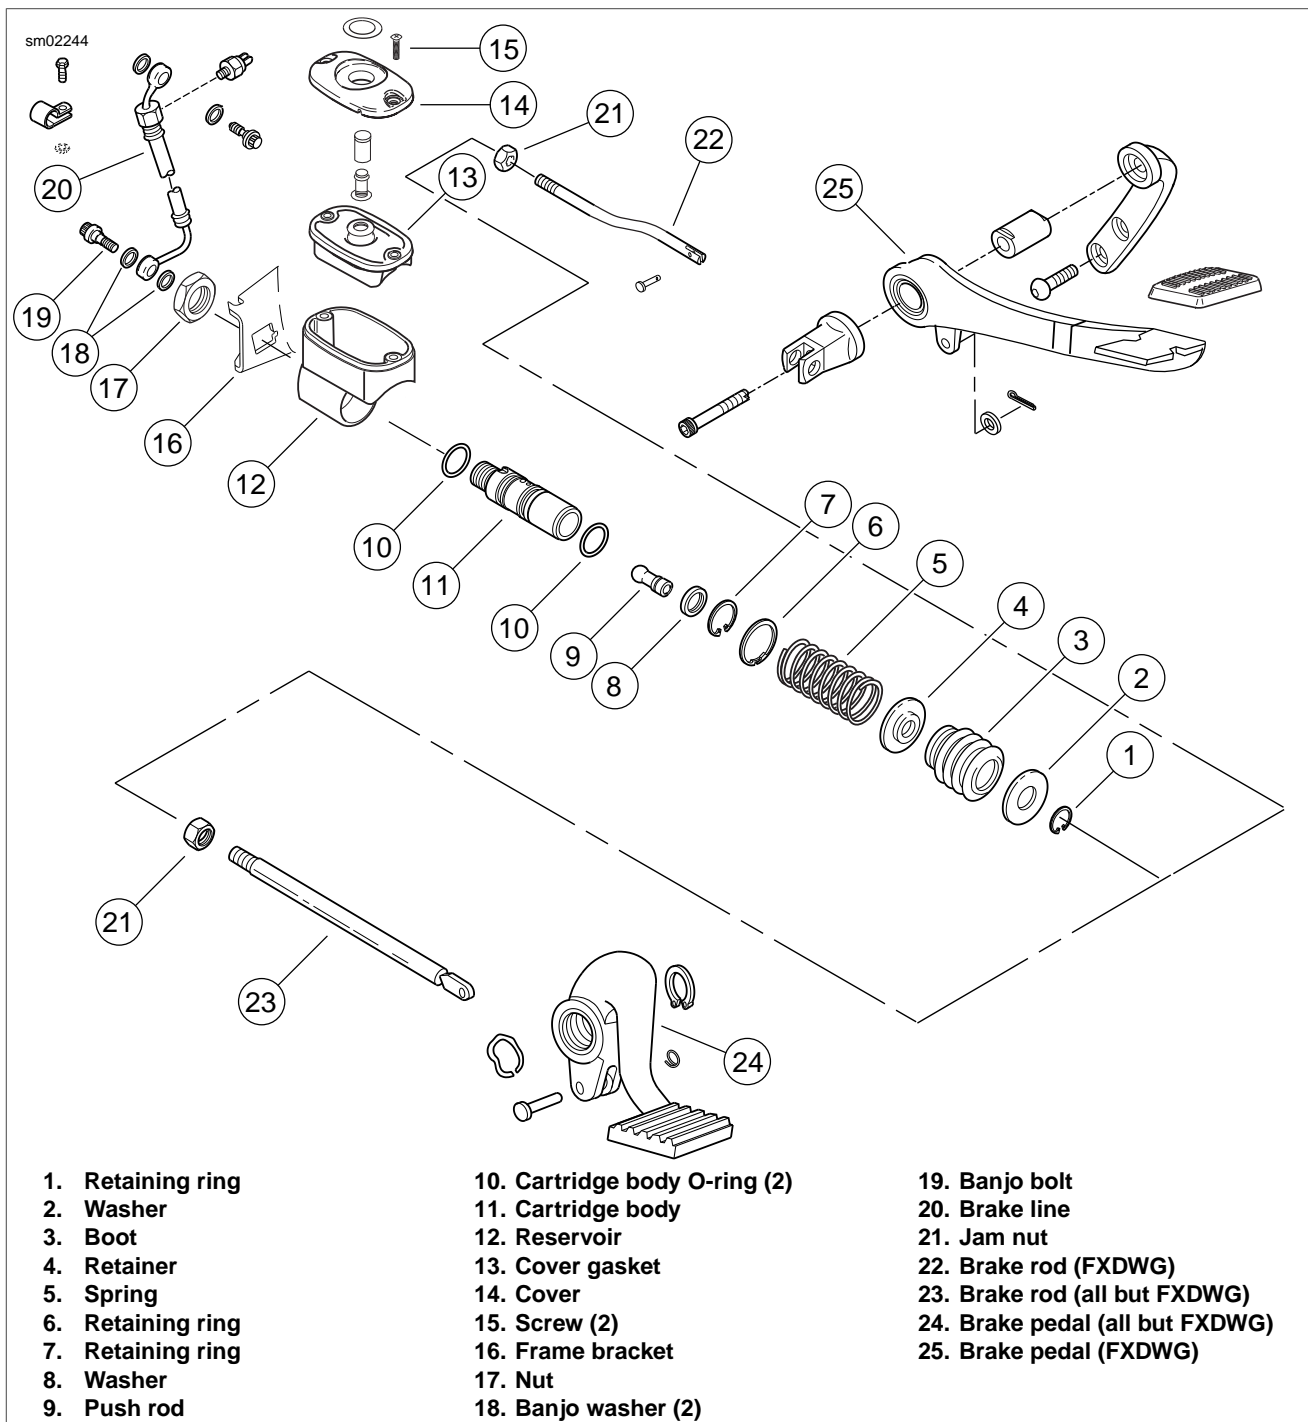

Figure 2-74. Rear Brake Master Cylinder
1. See Figure 2-74. Remove banjo bolt (19) and banjo washers (18). Discard washers.
2. Remove master cylinder mounting nut (17).
3. Loosen jam nut (21) on threaded brake rod (22/23).
4. Unscrew push rod (9) from brake rod.
2. See Figure 2-74. Thread banjo bolt (19) into the cartridge body (11).
3. Remove boot (3) from groove in master cylinder/reservoir (12). Set master cylinder/reservoir upright with banjo bolt resting on bench and push master cylinder/reservoir down and off the cartridge body.
5. Press down on large washer (2) to compress spring (5), keep spring compressed and remove retaining ring (1) from groove in push rod (9).
6. Carefully release spring and remove washer, boot, spring retainer (4) (inside boot) and spring.
7. Remove and discard retaining ring (7) from bore of cartridge body and remove push rod and washer (8).
2. See Figure 2-74. Inspect reservoir bore (12) for scratches. Replace if scratches are present.
3. Check boot (3) for tears and replace if any exist.
4. Inspect threads on cartridge body (11), push rod (9) and banjo bolt (19). Replace any part with damaged threads. Inspect spring for cracks or broken coils - replace if any exist.
5. Carefully remove large O-rings (10) from cartridge body. Do not scratch O-ring grooves. Clean grooves with soft cotton cloth moistened with alcohol. Inspect grooves for scratches and dirt. Remove dirt or replace cartridge body if grooves are scratched.
1. See Figure 2-74. Lubricate O-rings (10) with D.O.T. 4 brake fluid and install in O-ring grooves on cartridge body (11).
2. Lubricate bore of master cylinder/reservoir (12) with D.O.T. 4 brake fluid.
4. Thread banjo bolt (19) into cartridge body and stand master cylinder upright with banjo bolt resting on bench.
5. Place washer (8) on push rod (9).
6. Place a **new** retaining ring (7) on push rod. Insert ball-end of push rod into piston. Push piston downward with push rod until washer is properly seated in the cartridge bore.
9. Install retaining ring (6) in groove on cartridge body.
10. Install on push rod, spring (5), spring retaining washer (4) (large cupped side toward spring), boot (3) with drain hole down, and washer (2).
11. Press down on washer and install retaining ring (1) in push rod groove.
1. See Figure 2-74. Guide threaded end of master cylinder/reservoir (12) through hole in bracket (16). Make sure the square body of the master cylinder/reservoir is engaged in the square hole of the mounting bracket.
2. Install nut (17) and tighten to 30-40 ft-lbs (40.7-54.2 Nm).
3. Thread push rod (9) fully onto brake rod (22/23). Do not tighten jam nut (21) at this time.
4. Lubricate new steel/rubber washers (18) with D.O.T. 4 BRAKE FLUID. Install brake line (20) using banjo bolt (19) and new steel/rubber washers (18). Position brake line and tighten banjo bolt to 21-25 ft-lbs (28.5-33.9 Nm).